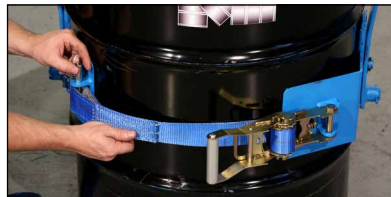
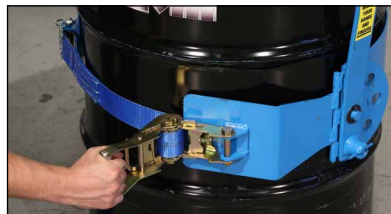

Figure 4.2
Figure 4.3
2. To secure drum: Drape web strap across face of drum, place strap loop between clevis, and secure with pin (Figure 4.2). Operate ratchet to tighten strap around drum (Figure 4.3).